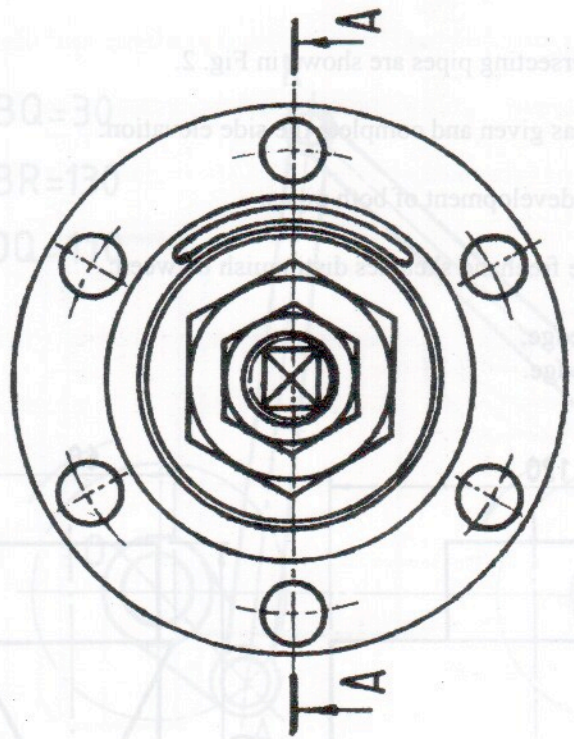

FIG. 6.1
- (a) List a selection of drawing commands necessary to produce the drawing in Fig. 6.1.